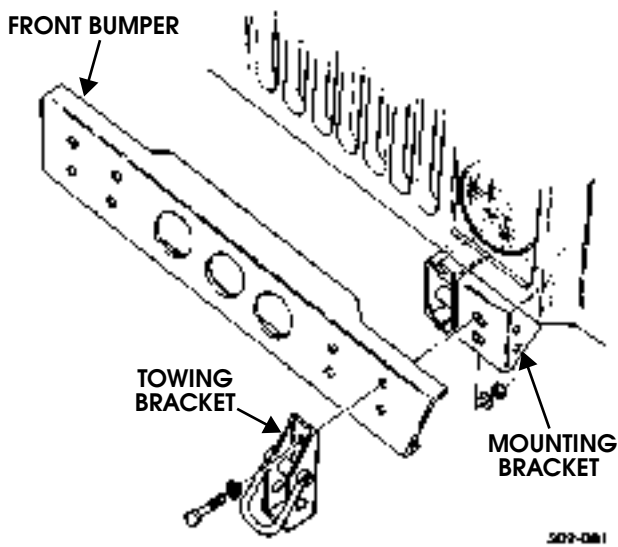

Figure 9-115: Front Bumper and Towing Bracket Replacement for Vehicles Without Winch
2. Remove four locknuts, washers, bolts, washers, two towing brackets, and front bumper from mounting brackets (Figure 9-115).
1. Install front bumper and two towing brackets on mounting brackets with four washers, bolts, washers, and locknuts. Tighten bolts to 90 lb-ft (122 N•m) (Figure 9-115).